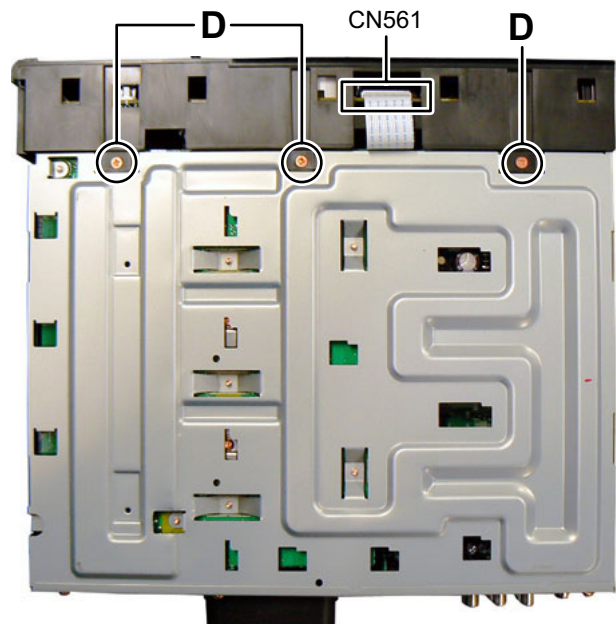

Fig.5
- (2) Disconnect the card wire from Main board connected to connector CN561 of the Front board. (See Fig.5)
- (3) Remove the three screws **D** attaching the Front panel. (See Fig.5)